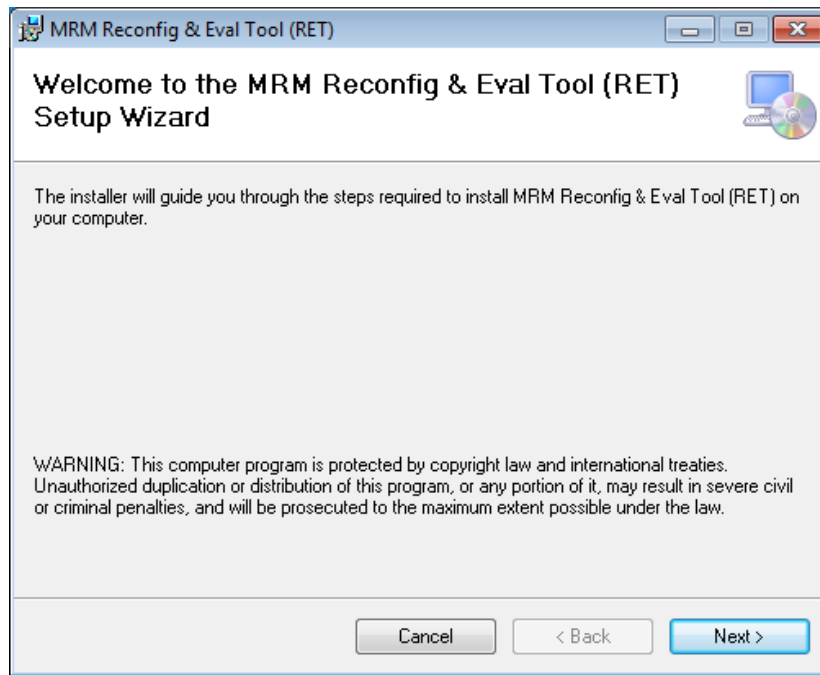

Fig. 3: Initial installation screen for the P400 MRM RET software
3. Onscreen, you should see the box shown in **Figure 3**.